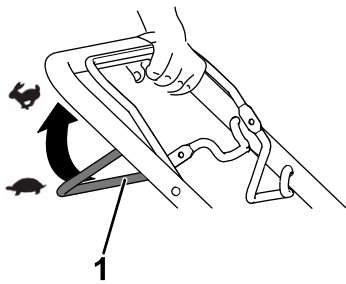

Figure 12
- To engage the self-propel drive, pull the self-propel-drive bar to the handle and hold it (Figure 12).